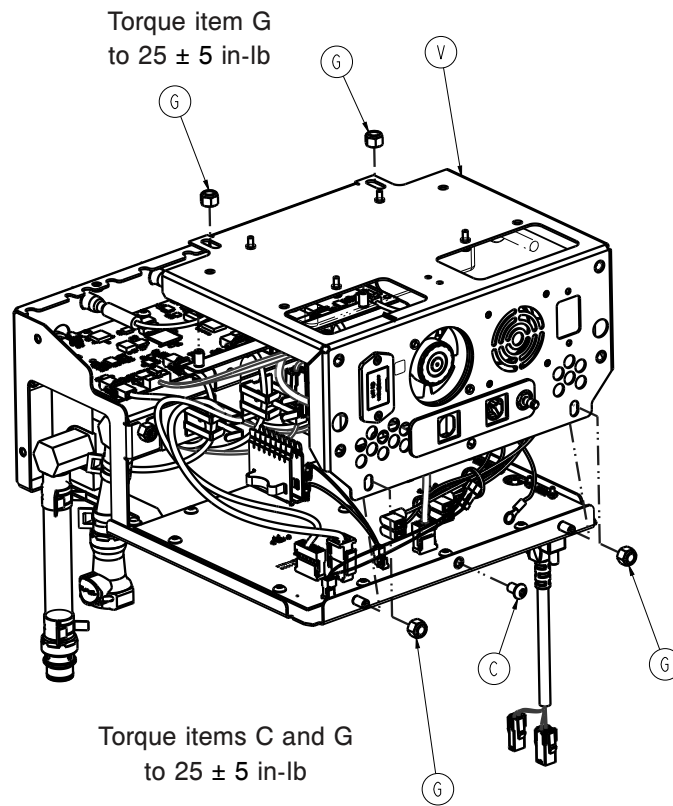

Figure 38 – Lock nuts
16. Using 7/16" socket, remove the 2 lock nuts (G) that secures the manifold assembly to the control assembly.(Figure 38)